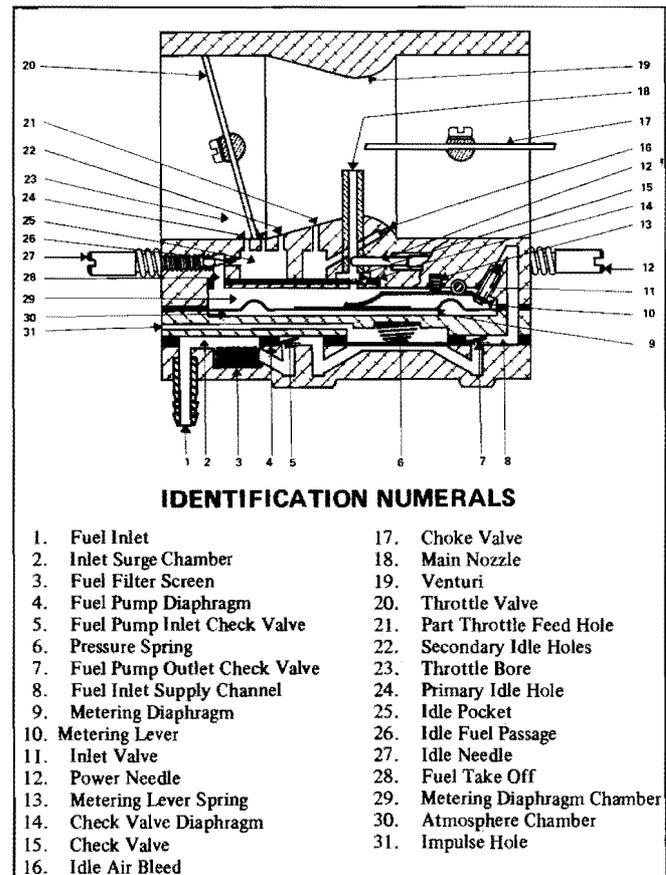

FIG. 4
F. WALBRO CARBURETOR (Refer to Fig. 4)
THIS IS HOW IT WORKS: (Refer to Fig. 4)
NEEDLE SETTINGS (Refer to Fig. 4)